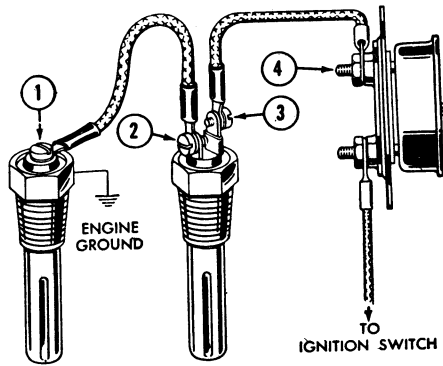

Fig. 15 FORD and KING-SEELEY. Showing check points for testing temperature gauges when two engine units are used
3. On Ford V8 engines using two engine units, check the double terminal engine unit as follows: If the dash unit does not register as in step 2, ground terminal "2" of the double terminal engine unit to which the wire connecting the single terminal unit is attached, Fig. 15. Turn the ignition switch on momentarily and observe if the dash unit registers. If it does, then the wire connecting the two engine units is defective.
5. If the dash unit does not register as in step 4, ground terminal "4" at the dash unit, Fig. 15. If the dash unit registers, then the wire connecting the double terminal engine unit to the dash unit is defective. If the dash unit is still inoperative after the preceding tests, replace the dash unit.